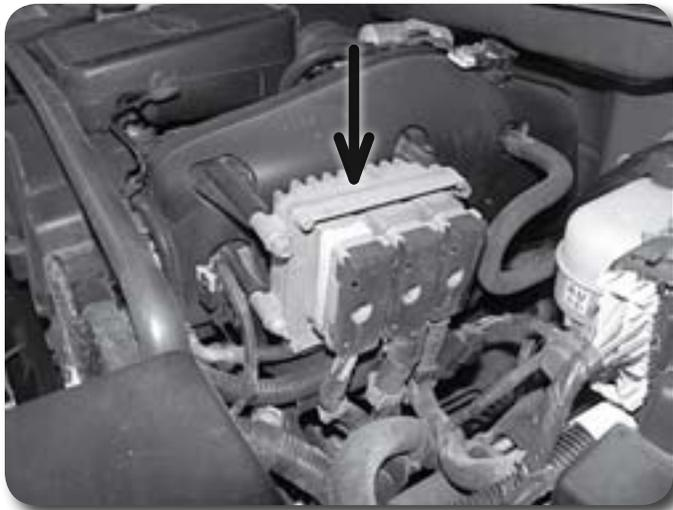

Figure 7
11. Remove the two bolts and two nuts mounting the electrical module to the driver's side of the engine Figure 7. Pull the module free of the mounting studs and allow it to rest out of the way. Save nuts and bolts.